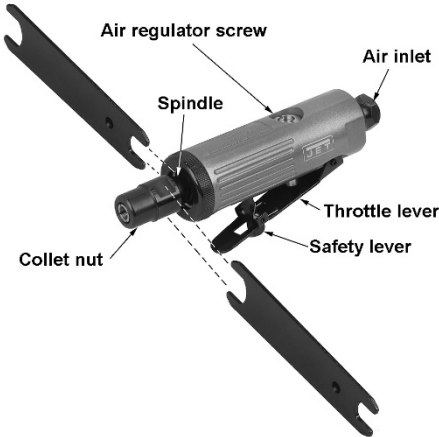

Figure 1
1. Loosen collet nut using the two wrenches on the flats of the collet nut and spindle (Figure 1). Keep wrench on spindle stationary while turning wrench on collet nut.
3. Remove protective cap from air inlet (Figure 1). If an in-line oiler is not being used, add 4 or 5 drops of air tool oil (not included) in to the air inlet.